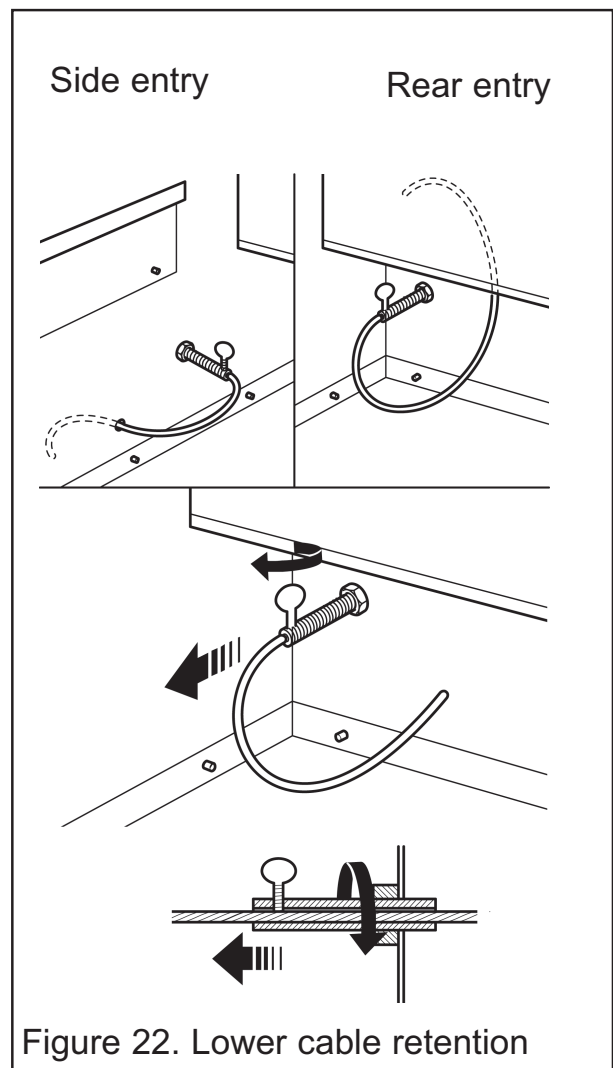

Figure 22. Lower cable retention
**11.** Pull each cable taut. Push the cable retainers hard up against the back panel. The end of the cable adjuster will pass into the hole. Tighten the screws in the retainers so that they clamp the cables in position. Apply tension to the cables by turning the hexagonal adjusters by hand (See figure 22).
**14.** Feed the free length of the cables into the gap between the inner and outer back panels so that they are available to allow easy removal and refitting of the appliance during subsequent service calls. **Do not cut off the free lengths of cable.** On precast flue installations feed the cables into the small holes at the base of the side panels (See figure 22)